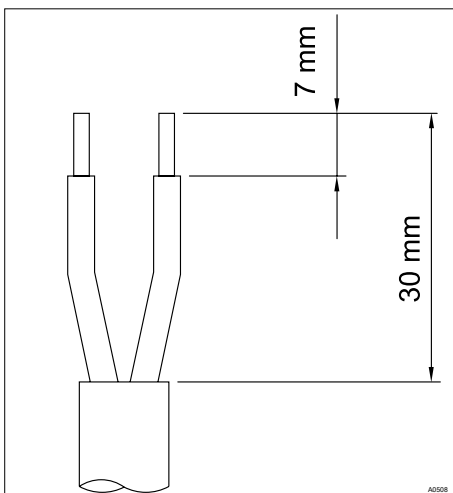

Fig. 13: Stripping back the cable sleeve
1. ➤ Strip the sleeve from the end of the cable as shown in Fig. 13 and press on the corresponding cable end sleeves.